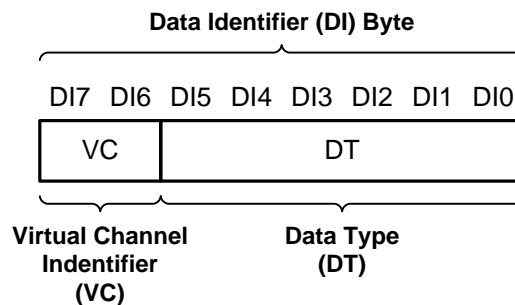

Figure 33. CSI-2 Data Identifier Structure
The DS90UH940N-Q1 MIPI CSI-2 protocol interface transmits the data identifier byte containing the values for the virtual channel ID (VC) and data type (DT) for the application specific payload data, as shown in Figure 33. The virtual channel ID is contained in the two MSBs of the data identifier byte and identify the data as directed to one of four virtual channels. The value of the data type is contained in the 6 LSBs of the data identifier byte.